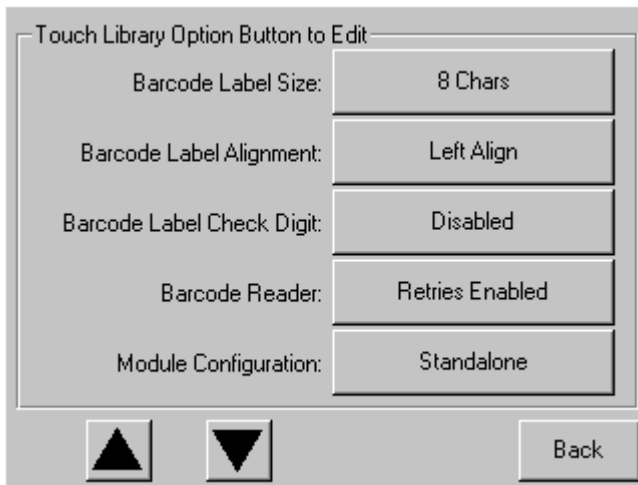

Figure 27 Module Configuration select screen
4. Press the down arrow (▼) until the **Module Configuration** menu option appears on the bottom of the display (see Figure 27).
4. Touch the down arrow (▼) until the **Module Configuration** menu option appears on the bottom of the display (see Figure 27 on page 37).